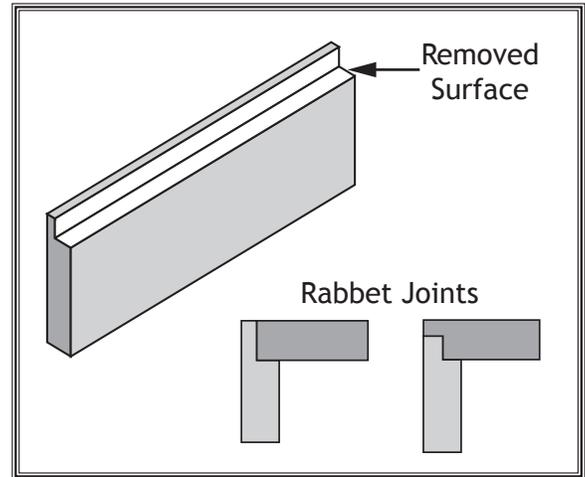

Figure 21. Rabbet joints.
A rabbet cut removes a portion of a workpiece edge, so it fits together with an opposing, equally sized rabbet cut on another workpiece (see **Figures 21–22**). This is a classic method of joining two workpieces that is simple, yet strong.
5. Remove cutterhead guard if necessary to perform operation (see **Figure 21**).